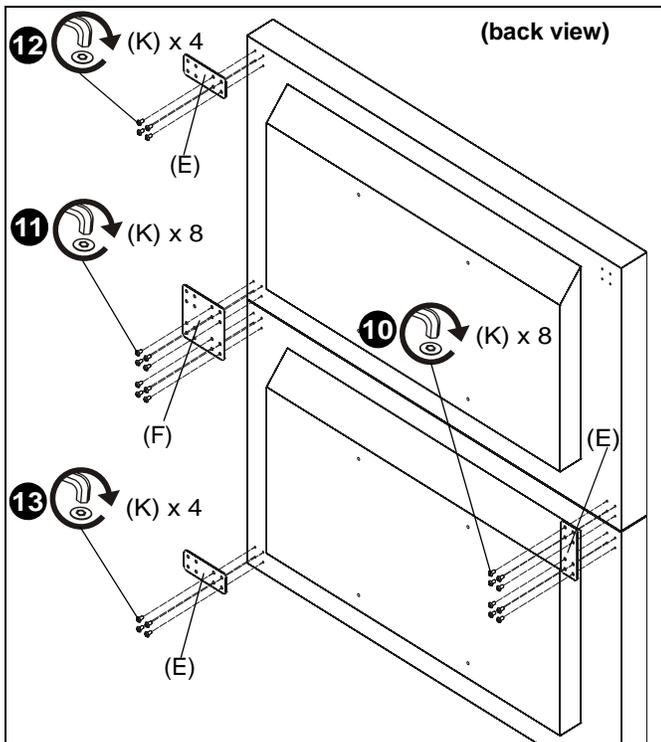

Figure 11
9. Place one edge attachment bracket (E) behind installed displays, lining up the eight holes with the four holes in the upper left corner of the bottom display and the lower left corner of the top display. (See Figure 11)
10. Install eight M4 x 8mm security screws (K) through edge attachment bracket (E) and into backs of displays. (See Figure 11)
11. Install eight M4 x 8mm security screws (K) through holes of middle attachment bracket (F) and into lower right holes of upper display and upper right holes of lower display. (See Figure 11)
12. Install four M4 x 8mm security screws (K) through holes of edge attachment bracket (E) and into upper right holes of upper display. (See Figure 11)
13. Install four M4 x 8mm security screws (K) through holes of edge attachment bracket (E) and into lower right holes of lower display. (See Figure 11)